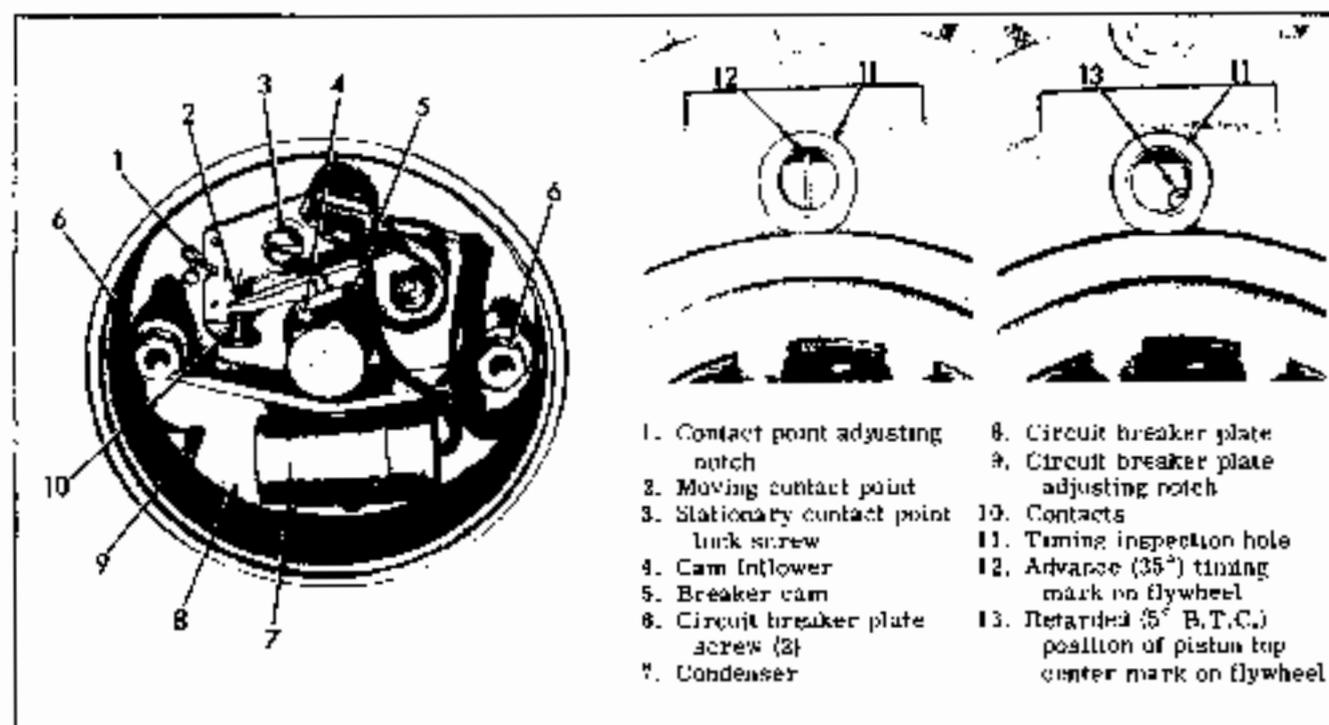

Figure 5-15. Circuit Breaker and Timing Gears
ADJUSTING POINTS (See Figure 5-15)
CHECKING ADVANCED TIMING WITH STROBE TIMING LIGHT (Figure 5-15)
CHECKING RETARDED TIMING WITH CIRCUIT TESTER (See Figure 5-15)
The narrow lobe cam is now at the approximate point at which contacts (10) open and front cylinder ignition spark occurs. When the wide cam lobe opens the points, rear cylinder ignition spark occurs. Connect a circuit tester such as a light bulb across the contact points to determine the exact point of contact opening. Loosen circuit breaker plate screws (6) just enough to shift circuit breaker plate (8) using a screwdriver in notch (9), so contacts will open exactly when piston top center timing mark (13) is aligned in inspection hole (11) as shown in Figure 5-15.